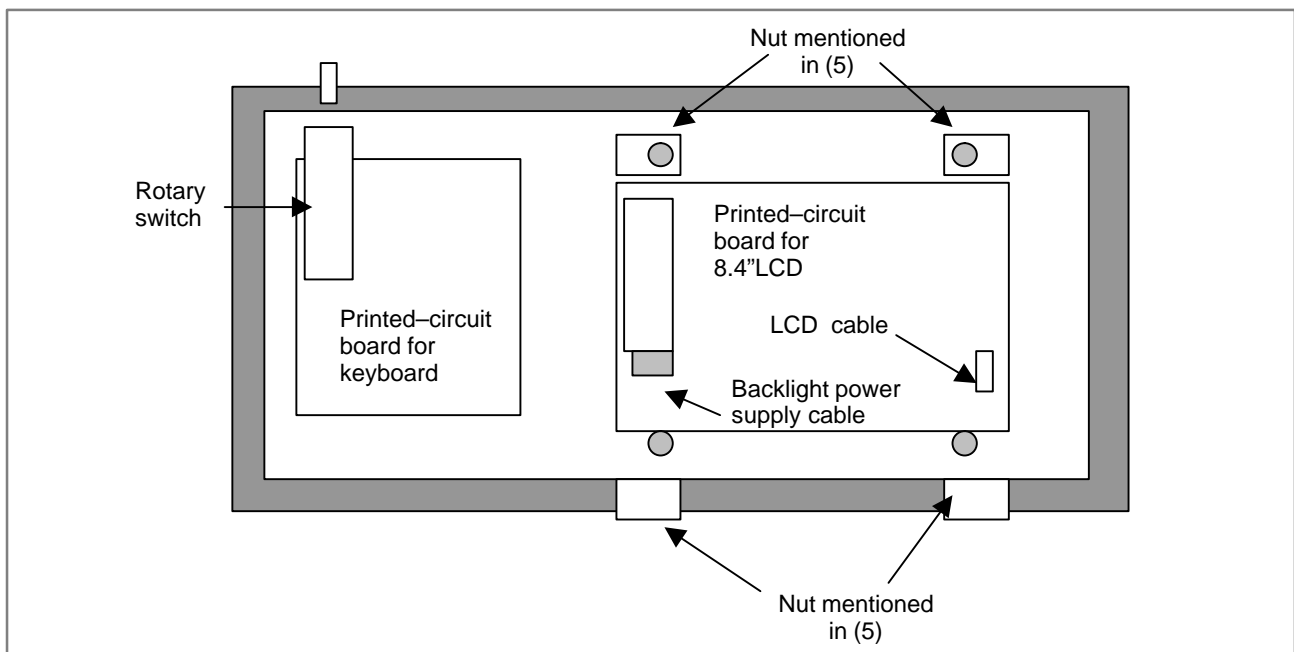

Fig. 2.9.3 Inside of the detachable LCD box
- (1) Turn off the power to the detachable LCD/MDI type B, and wait for a while.
- (2) Remove the 10 screws from the rear of the detachable LCD/MDI type B, and then take out the metal plate on which the CRT control printed-circuit board and power supply are mounted. (Be careful because the metal plate is connected with main unit through cables.)
- (3) Remove the connectors JA1 and JA2 from the CRT control printed-circuit board, and the connector CN1 from the power supply.
- (4) Remove the backlight power supply cable and LCD cable from the 8.4" color LCD printed-circuit board. (See Fig. 2.9.3.)
- (5) Remove the 4 nuts from the metal plate fastening the 8.4" color LCD printed-circuit board, and then take out the printed-circuit board by pulling it up. (See Fig. 2.9.3.)
- (6) If the backlight is an L-shaped type, remove the 2 screws, and then take it out by pulling down the case of the backlight and shifting it a little to the left. (See Fig. 2.9.3.)
If the backlight is a rod type, remove the 3 screws from the left side, and then open the lid. (See Fig. 2.9.3.)